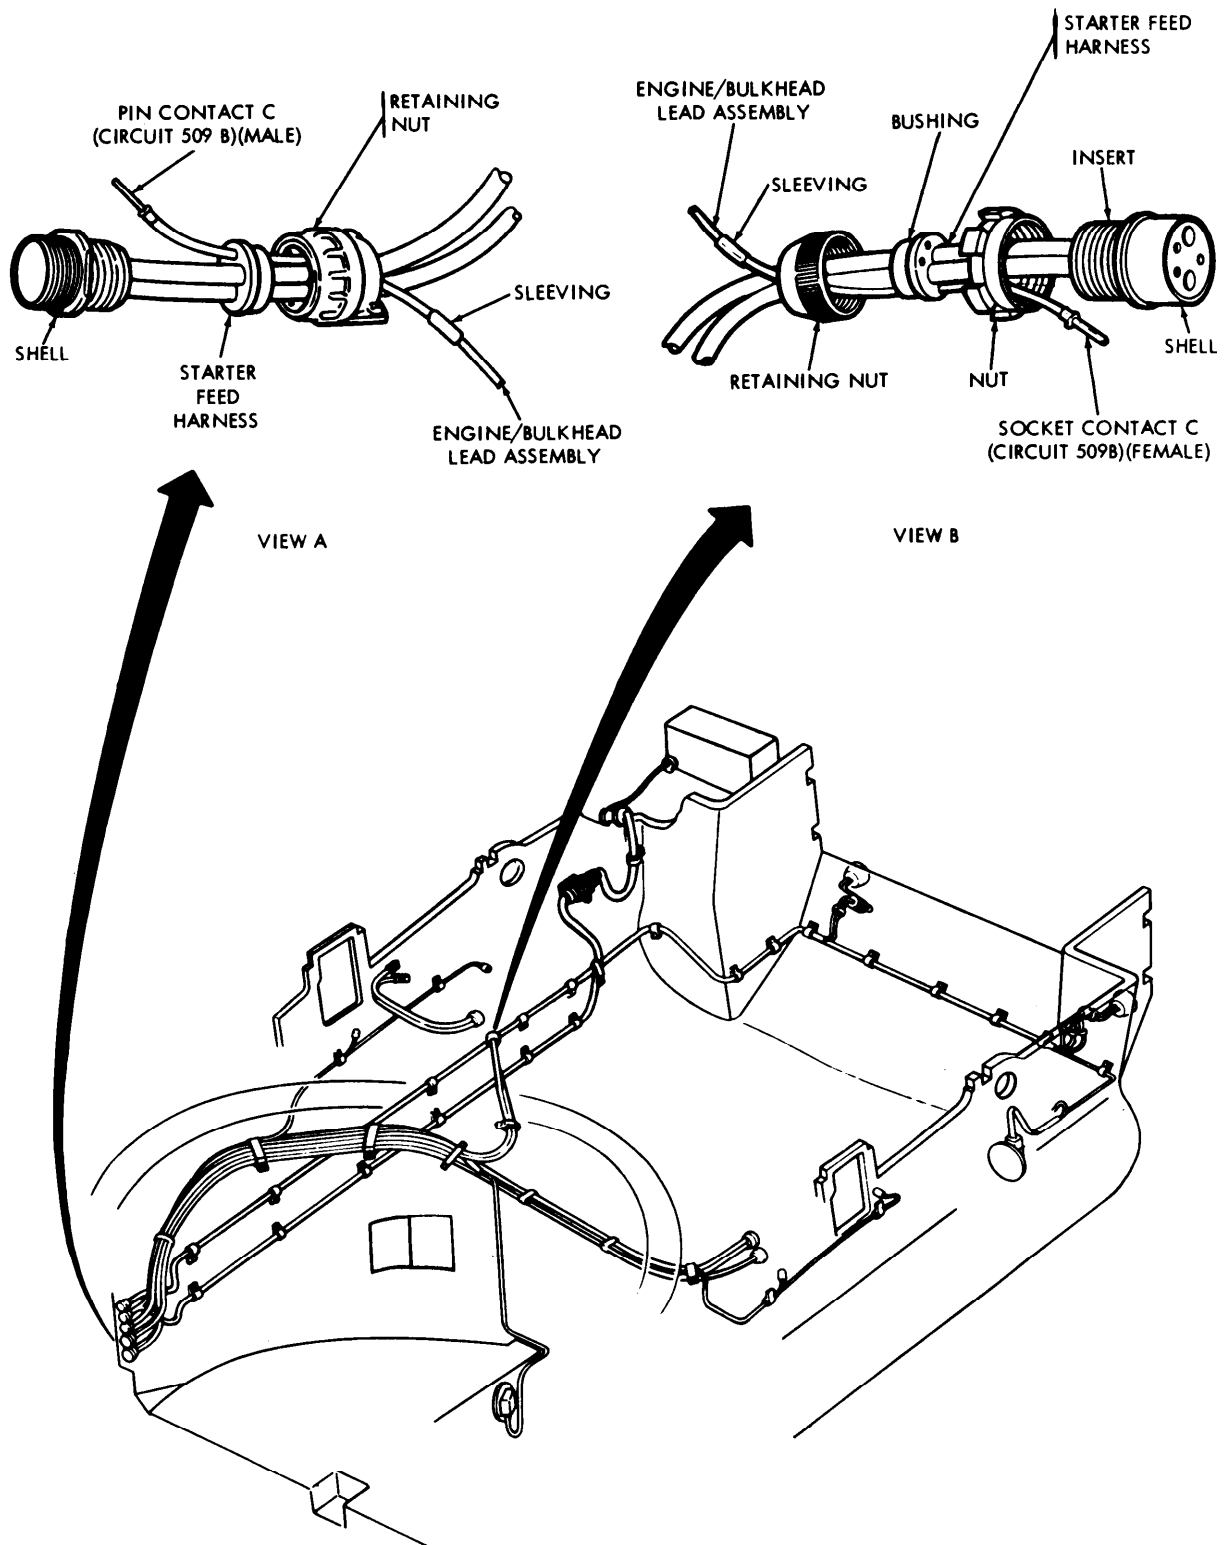

Figure 6-21. Engine to bulkhead lead assembly replacement.
d. *Engine to Bulkhead Lead Assembly Replacement (Fig. 6-21).*